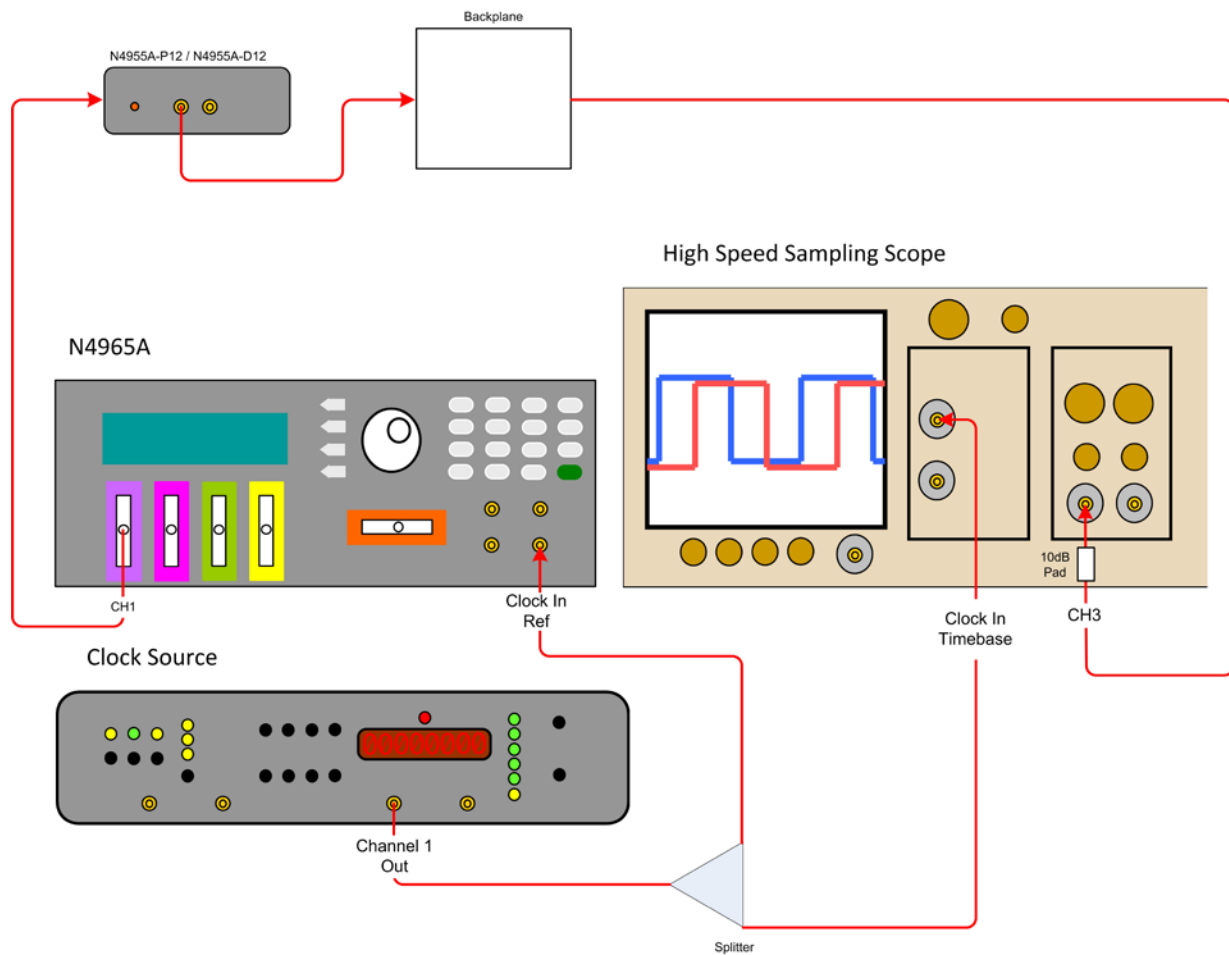

Figure 41. De-emphasis setup
1. Set up the equipment as shown in Figure 41. Tighten cables to 8 lb-in (90 N-cm) and use 50 Ω terminations on all unused ports.